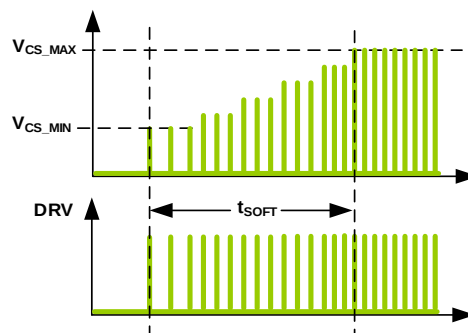

Figure 3: Soft Start
To reduce the stress on power components and smoothly establish V_{OUT} , the HFG610-45 employs soft start (SS). Figure 3 shows the peak current limit gradually increasing from the minimum current-sense voltage (V_{CS_MIN}) to the maximum current-sense voltage (V_{CS_MAX}) during start-up, unless feedback takes over.